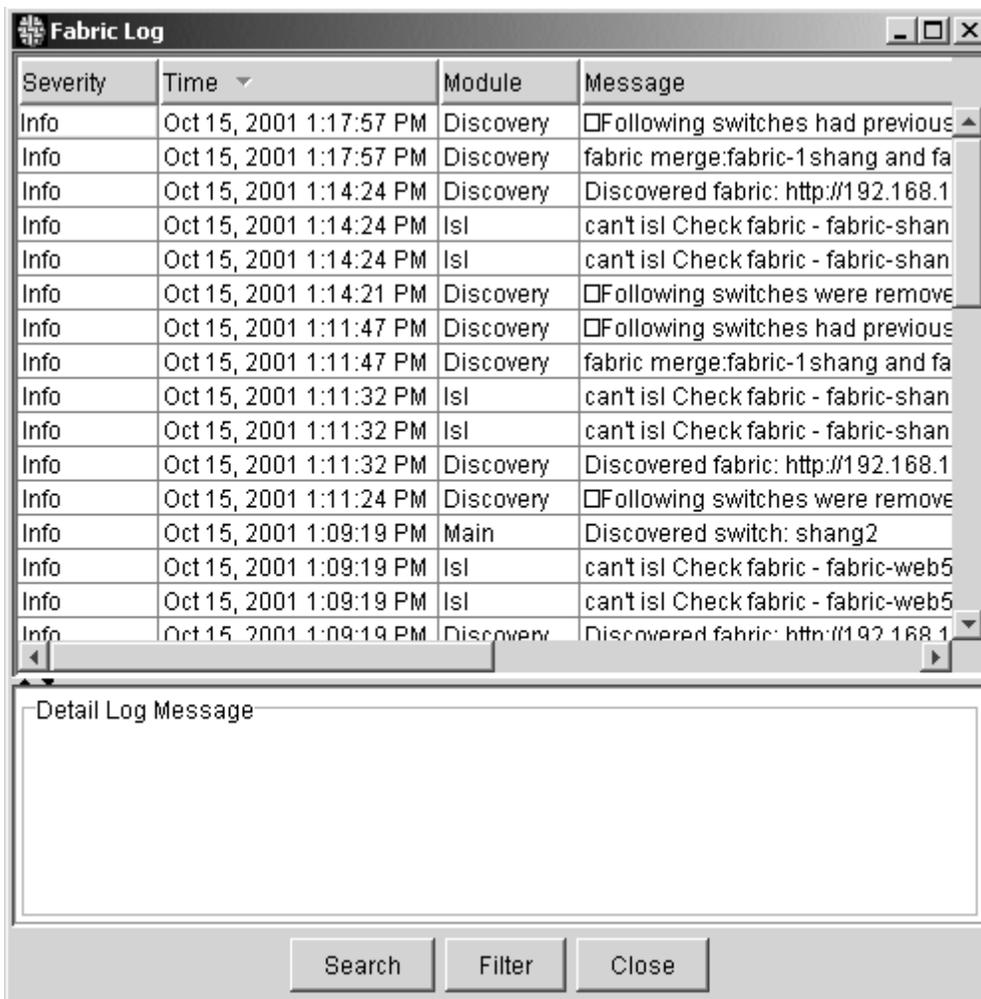

Figure 4–8: Fabric Manager Log dialog box
1. Choose **File > Fabric Manager Log**. The **Fabric Manager Log** displays, as shown in Figure 4–8.